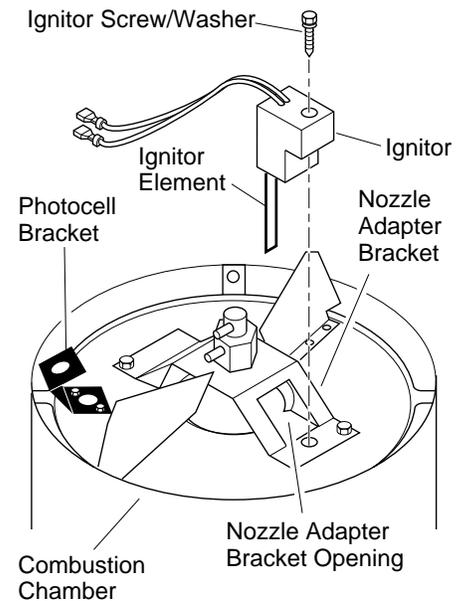

Figure 11 - Ignitor Replacement
6. Remove combustion chamber. Stand combustion chamber on end with nozzle adapter bracket on top (see Figure 11).